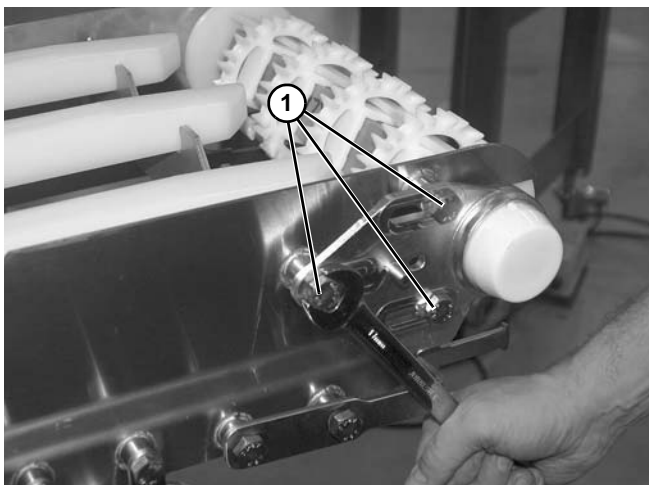

Figure 55
3. Remove the headplate screws (**Figure 55, item 1**) on both sides of the conveyor.